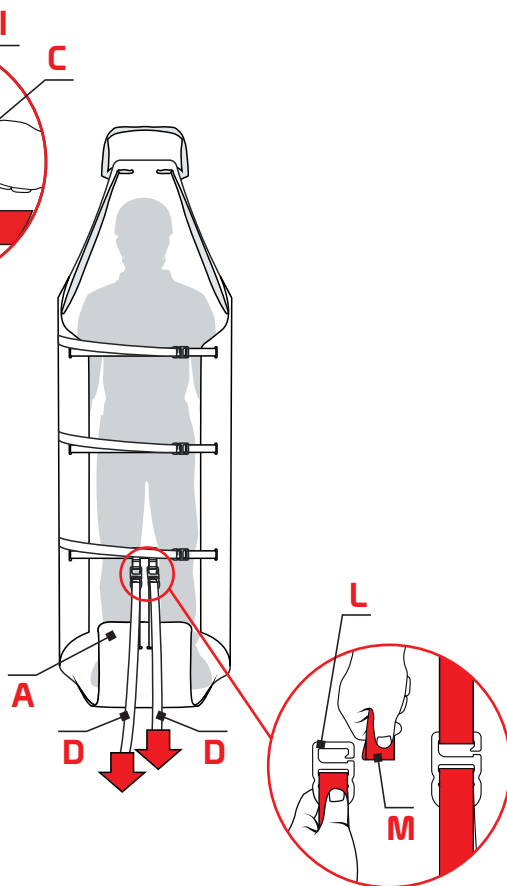

Fig.14
- Insert the buckles with hook (L) in the corresponding slings with eyelet (M) and tension the slings (D) to lift the end part of the support surface (A) enough to contain the patient's feet (fig. 14).